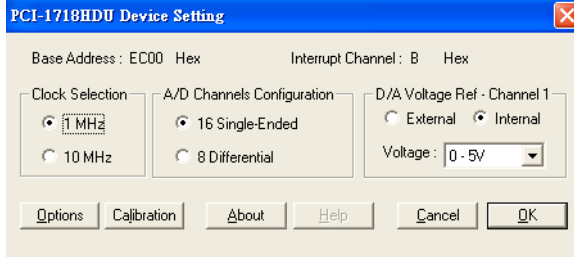

Figure 2.4: The Device Setting Dialog Box
3. Scroll down the *List of Devices* box to find the device that you wish to install, then click the *Add...* button. You will see a *Device Setting* dialog box such as the one in Fig. 2-4.
4. On the *Device Setting* dialog box (Fig. 2-4), you can configure the A/D channels configuration either as *8 Differential* or *16 Single-ended*, and specify the D/A voltage reference either as *External* or *Internal*.